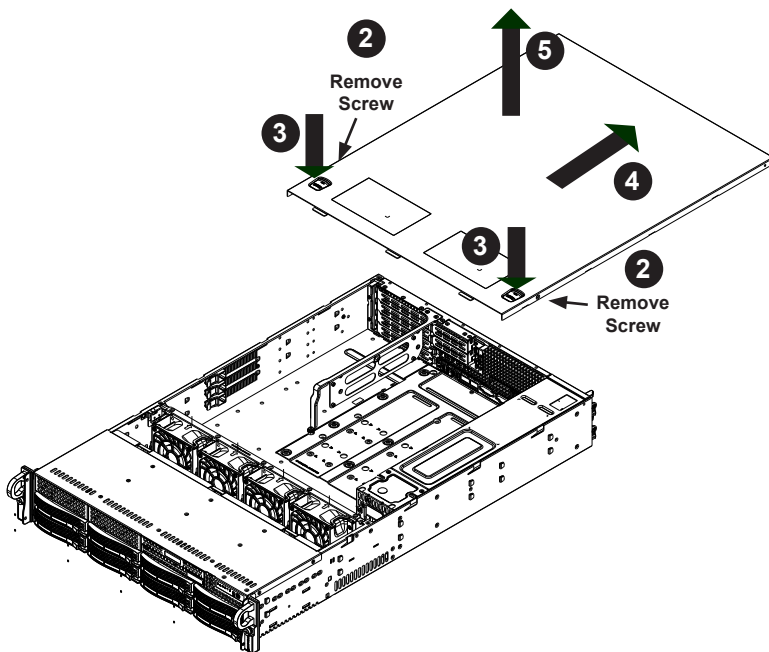

Figure 6-2. Accessing the Inside of the System
6. To remove the system from the rack completely, press the locking tabs in the chassis rails (push the right-side tab down and the left-side tab up) to continue to pull the system out past the locked position. See Figure 6-2.